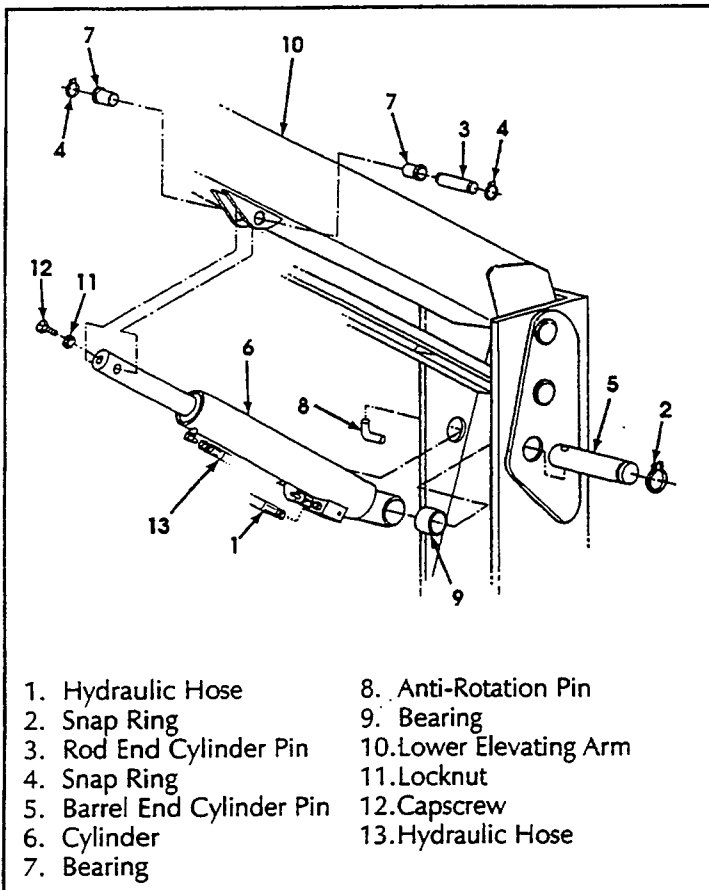

Figure 4-15: Lift Cylinder Installation
4.13 Lift Cylinder (Figure 4-15)
INSTALLATION (Figure 4-15)